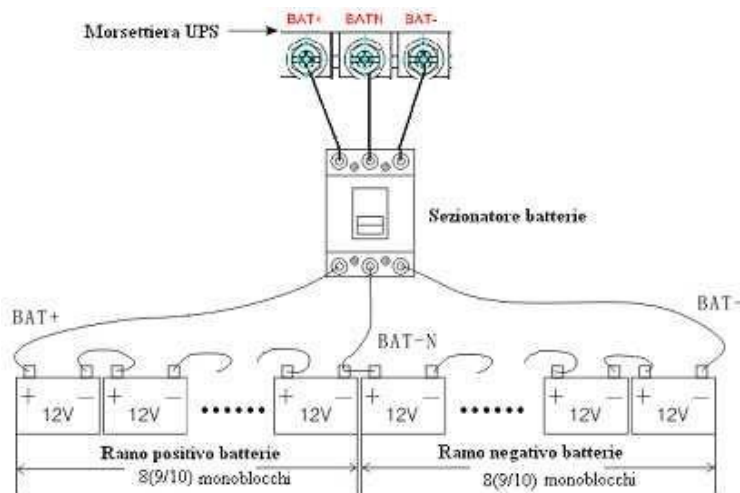

Fig.5 External battery cabinet connection
- 5) Connect battery pole with positive pole, common pole and negative pole to battery connector (BAT+,BATN,BAT-) , don't reverse battery connection (Fig. 5).